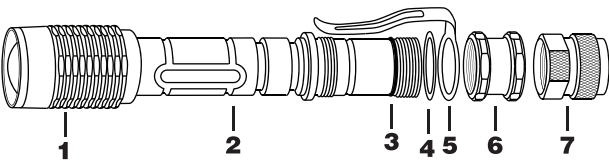

Fig. 1
- 1 **Remove the Tailcap** by turning counter clockwise (Fig. 1, #7).
- 2 **Insert (2) 18650 Batteries into flashlight** (with “+” end first) and reattach the Tailcap.